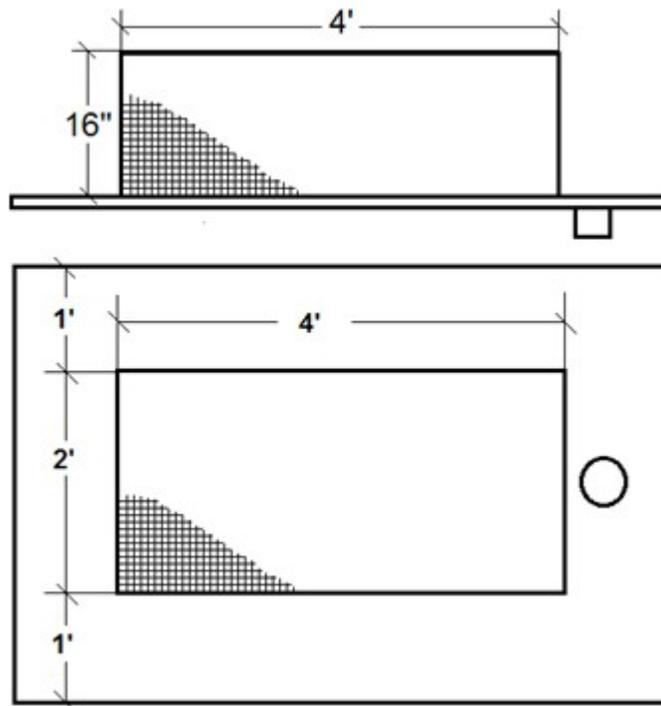

Figure 1-5
4. Using  $\frac{1}{2}$ "x $\frac{1}{2}$ " hardware cloth, construct a rectangular cage 4' long, 2' wide, and 16" in height (Figure 1-5). Hardware cloth is easily folded by hand or over any straight edge (Figure 1-6 and 1-7).